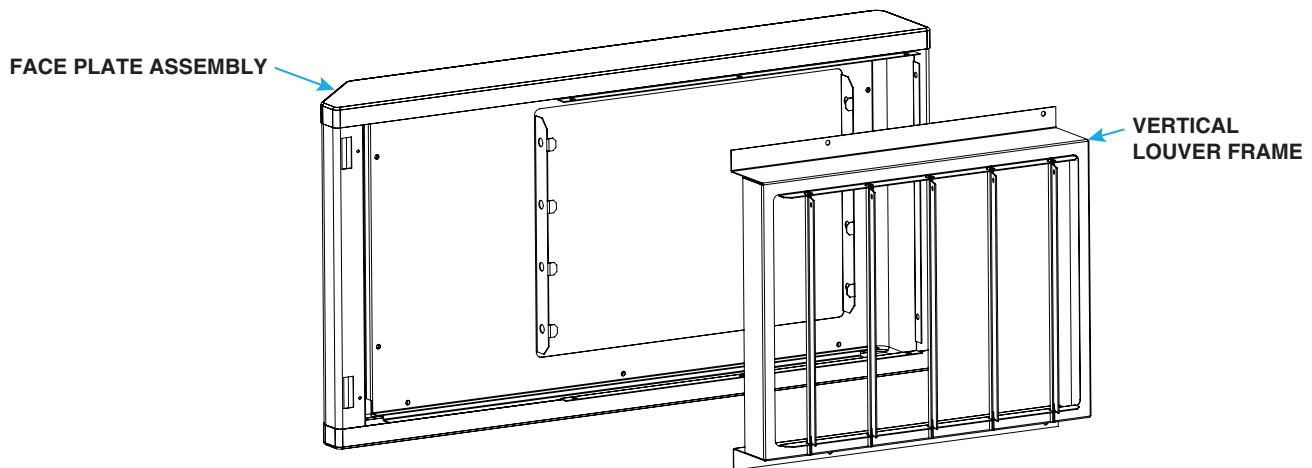

Figure 2. Typical Face Plate Assembly (with Vertical Louver Frame Shown)
4. Remove face plate assembly (see **Figure 2**):
5. If installing option CD4 or CD5, position vertical louver frame (see **Figure 2**) in face plate outlet so that holes align and secure frame to face plate using screws from kit.